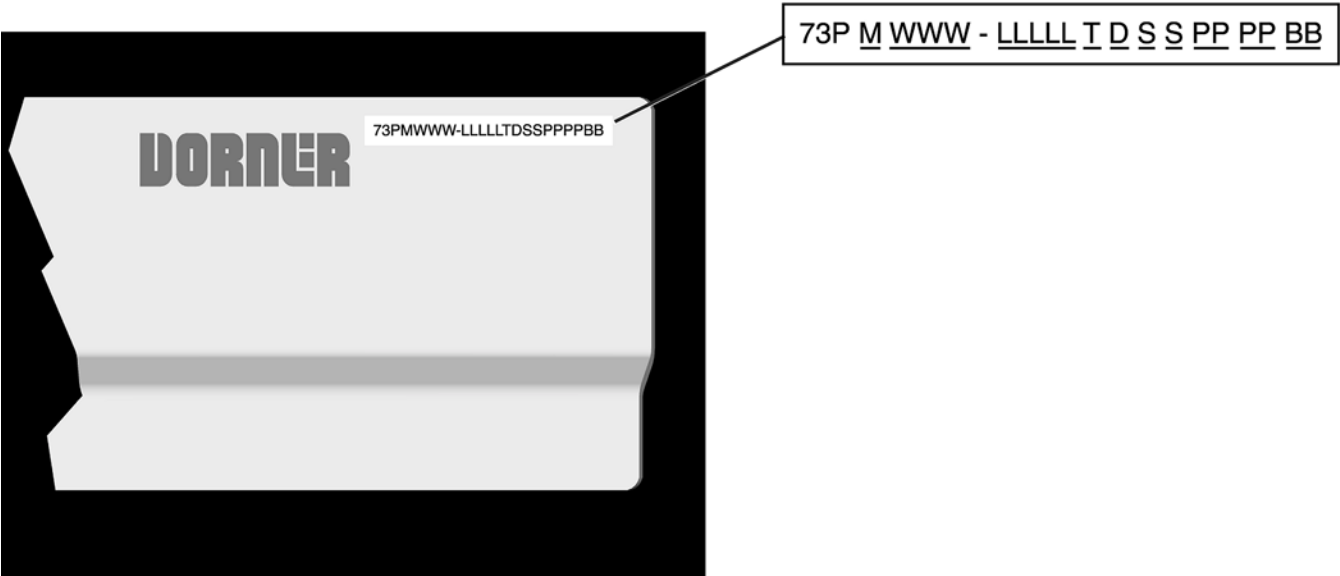

Figure 67
Refer to model number on the conveyor frame (Figure 67). From the model number determine the conveyor width (WWW), length (LLLLL) and belt type (BB). Use data to configure belt part number as indicated below.